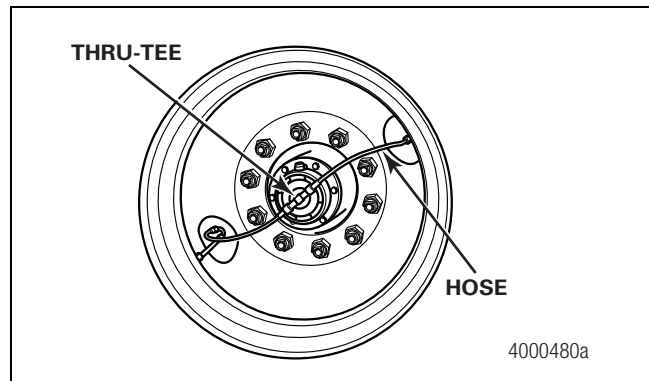

Figure 4.7
7. Check the wheel ends to verify that the tire inflation system hoses do not contact the wheels. Figure 4.7.